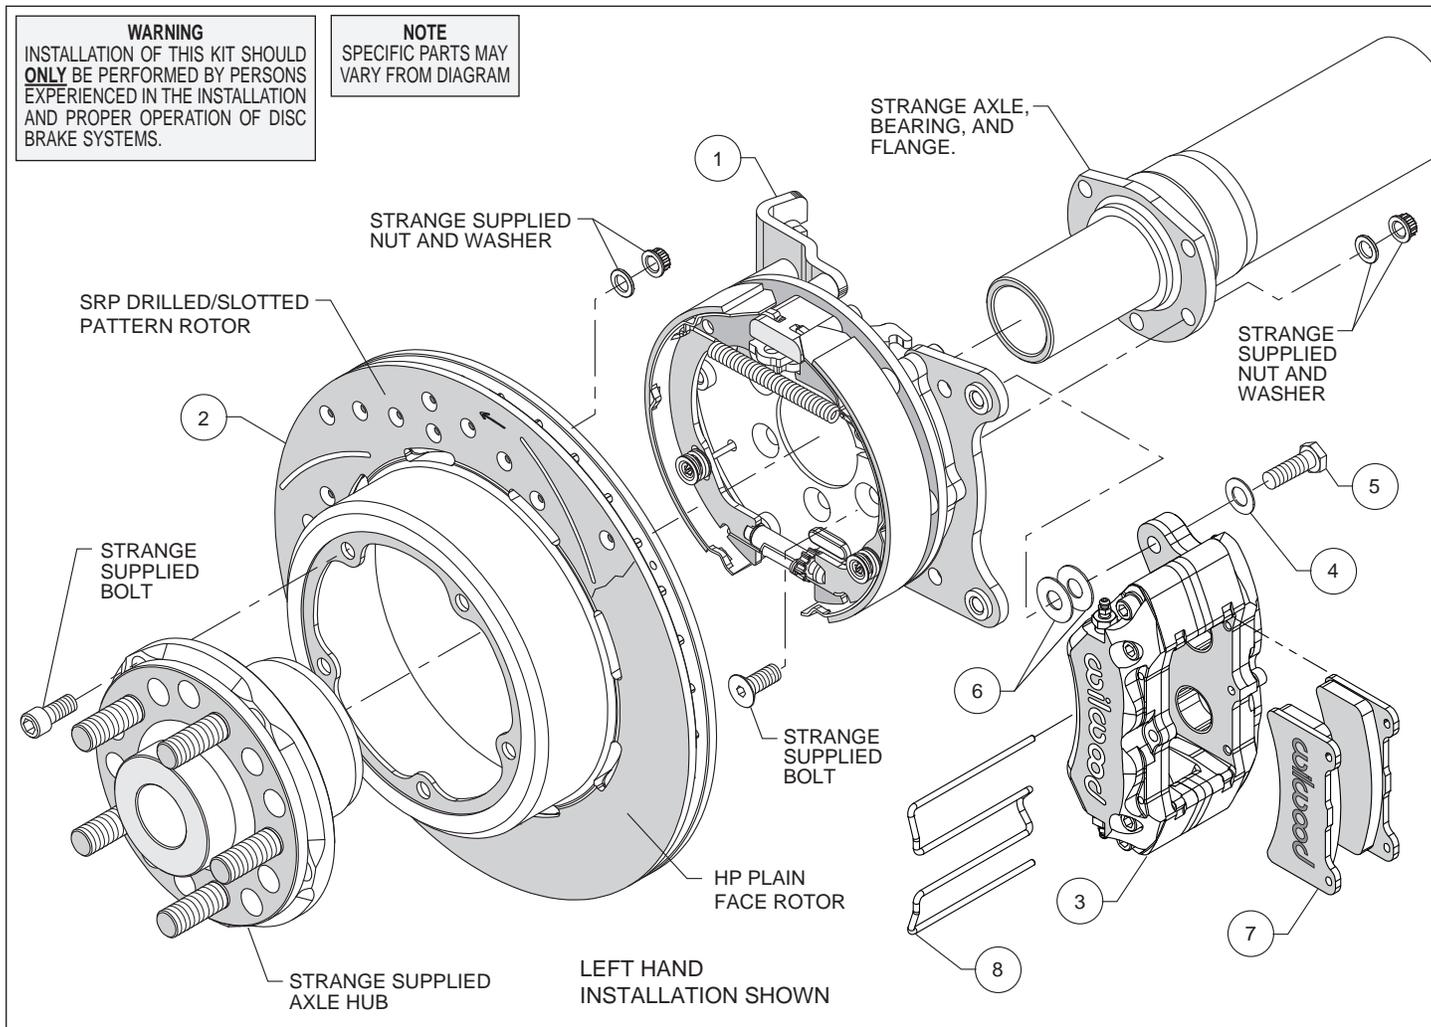
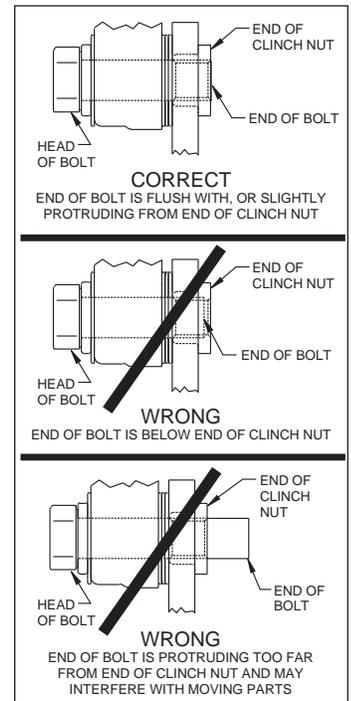

Figure 1. Typical Installation Configuration
Figure 3. Clinch Nut Engagement Diagram
Assembly Instructions (numbers in parenthesis refer to the parts list and Figure 1 on the preceding pages): **CAUTION:** All mounting bolts must fully engage clinch nuts. Be sure to check that all bolts are either flush or protruding through flanged side of clinch nut after shimming, Figure 3.
- Orient the bracket assembly (1) as shown in Figure 1 and slide it onto the axle. Ensure that the bracket assembly backing plate fits flush against the axle housing flange. Mount the bracket assembly to the axle flange using bolts, washers, and nuts (all Strange supplied) as shown in Figure 1. Apply red *Loctite*® 271 to the bolt threads and torque to Strange specifications.
- Orient the rotor (2) and the axle hub (Strange supplied) as shown in Figure 1. Attach the rotor to the axle hub using bolts, washers, and nuts (all Strange supplied) as shown in Figure 1. Apply red *Loctite*® 271 to the bolt threads and torque to Strange specifications.
- Slide the rotor/hub assembly onto the axle as shown in Figure 1 and secure per Strange specifications.
- NOTE:** Please reference the caution statement at the beginning of the assembly instructions. Mount the caliper (3) onto the caliper mounting bracket (1) using bolts (5) and washers (4), as shown in Figure 1. Initially place two .035" thick shims (6) on each bolt between the caliper and the bracket, Photo 1. Temporarily tighten the mounting bolts and view the rotor (2) through the top opening of the caliper. The rotor should be centered in the caliper, Photo 2. If not, adjust by adding or subtracting shims between the bracket and the caliper. Always use the same amount of shims on each of the two mounting bolts. **NOTE:** The end of each bolt must be flush with or slightly protruding from the head of the clinch nut, as shown in Figure 3. If necessary place spare shims between washer (4) and caliper mounting ear to achieve the proper clinch nut engagement. Once the caliper alignment and clinch nut engagement are correct, remove the bolts one at a time, apply red *Loctite*® 271 to bolt threads, and torque to 40 ft-lb.
- Install the disc brake pads (7) into the caliper, with the friction material facing the rotor (2), and secure in place using the pad clip retainer (8), Photo 3.
- NOTE:** Clevis and cable kits which attach to the parking brake assembly are not included in the Wilwood parking brake kit. Wilwood offers a generic style parking brake cable kit, P/N 330-9371 for this application which can be ordered separately from your local Wilwood dealer or by calling Wilwood customer service at (805) 388-1188.
- Before final installation of the wheel, remove the rubber grommet in the bracket kit assembly (1) and adjust the parking brake shoes outward (using a drum shoe adjustment tool available at your local auto parts store) while spinning the rotor/hub (2) until a slight drag is felt against the hat/drum. Replace the rubber grommet when finished.